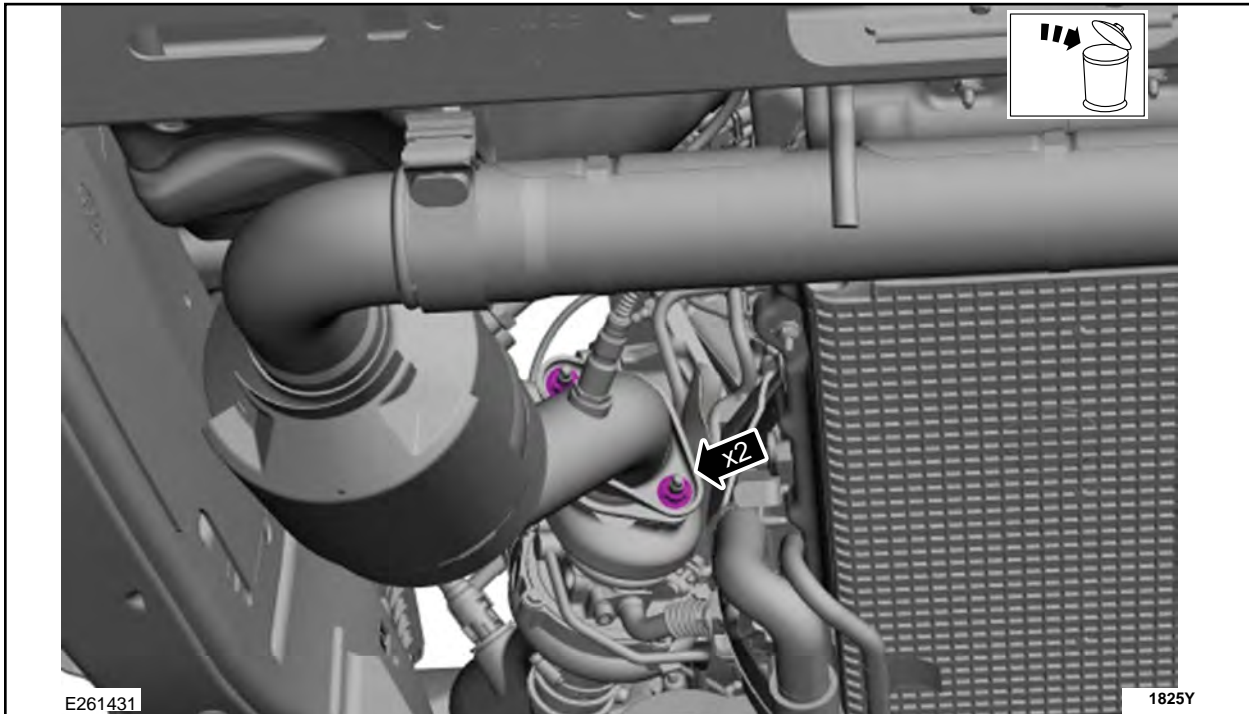

FIGURE 16
32. Remove the LH catalytic converter nuts and discard. See Figure 16.